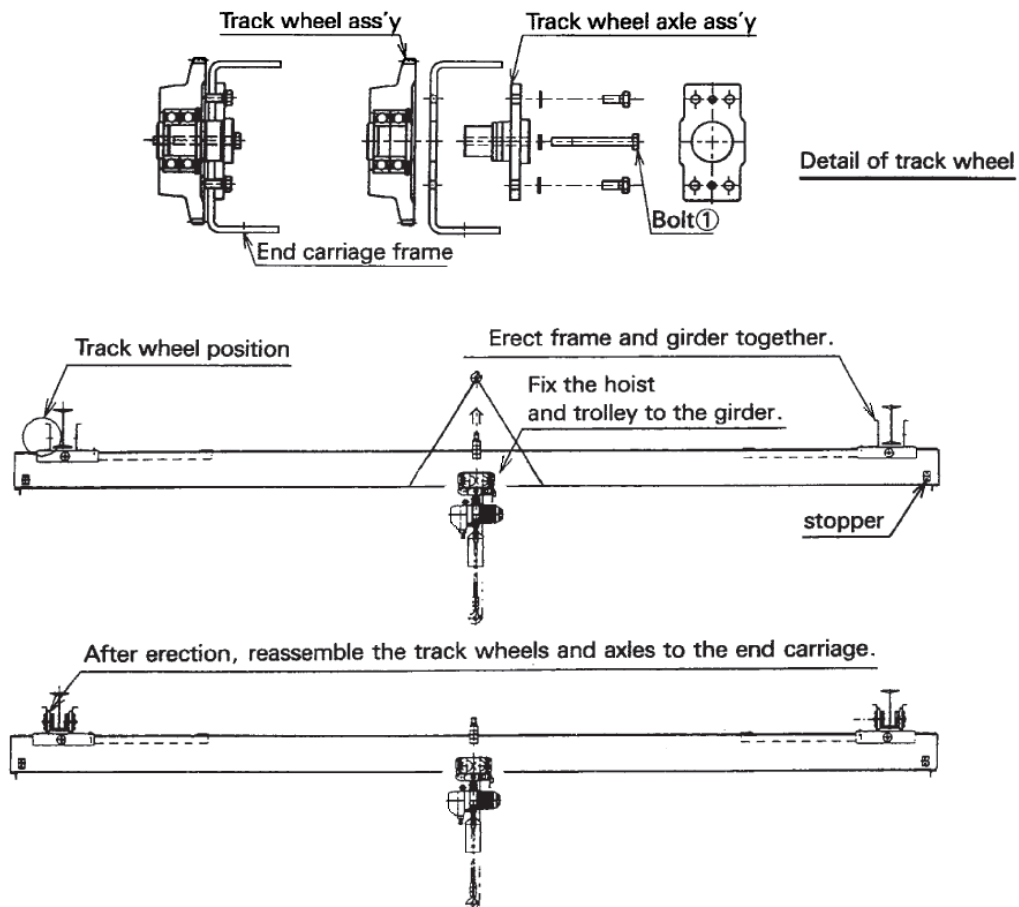

Fig. 1
- (a) Detach all track wheels and axles from the end carriage as shown in Fig. 1. The end carriage frame can be erected without detaching it from the girder. Reassemble the track wheels and axles when the end carriage is in position. When installing track wheel onto frame fasten bolt ① with a torque tabulated below.
- (b) Installing as shown in Fig 1